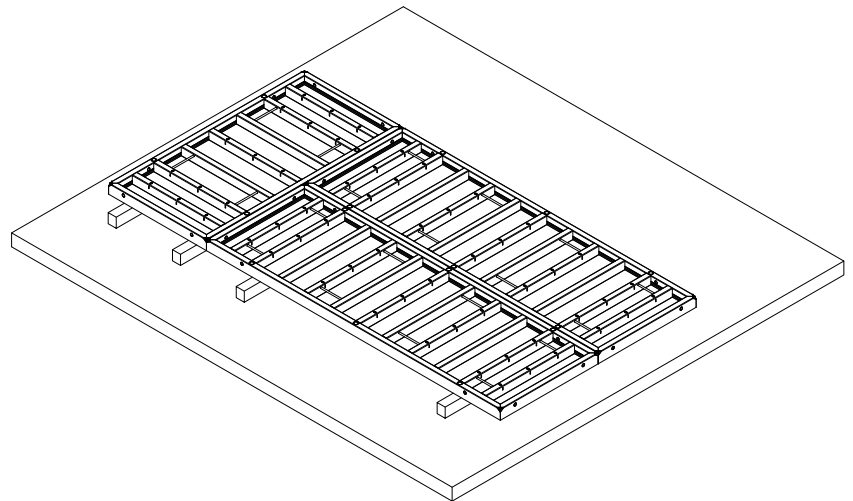

Fig. 53.2
**4.** Lift the panel up, then lay it face down in the gang assembly area, arranging it with other panels needed for the gang (Fig. 53.2).